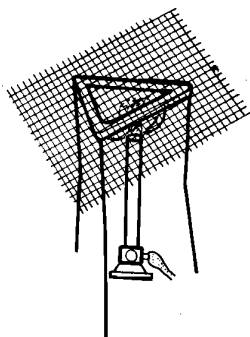

Fig.1.7: Diffusion of heat by
- Place a **metal gauze** over the **tripod stand** and place the **bunsen burner** underneath it so that heating is uniform over the base (Fig.1.7)